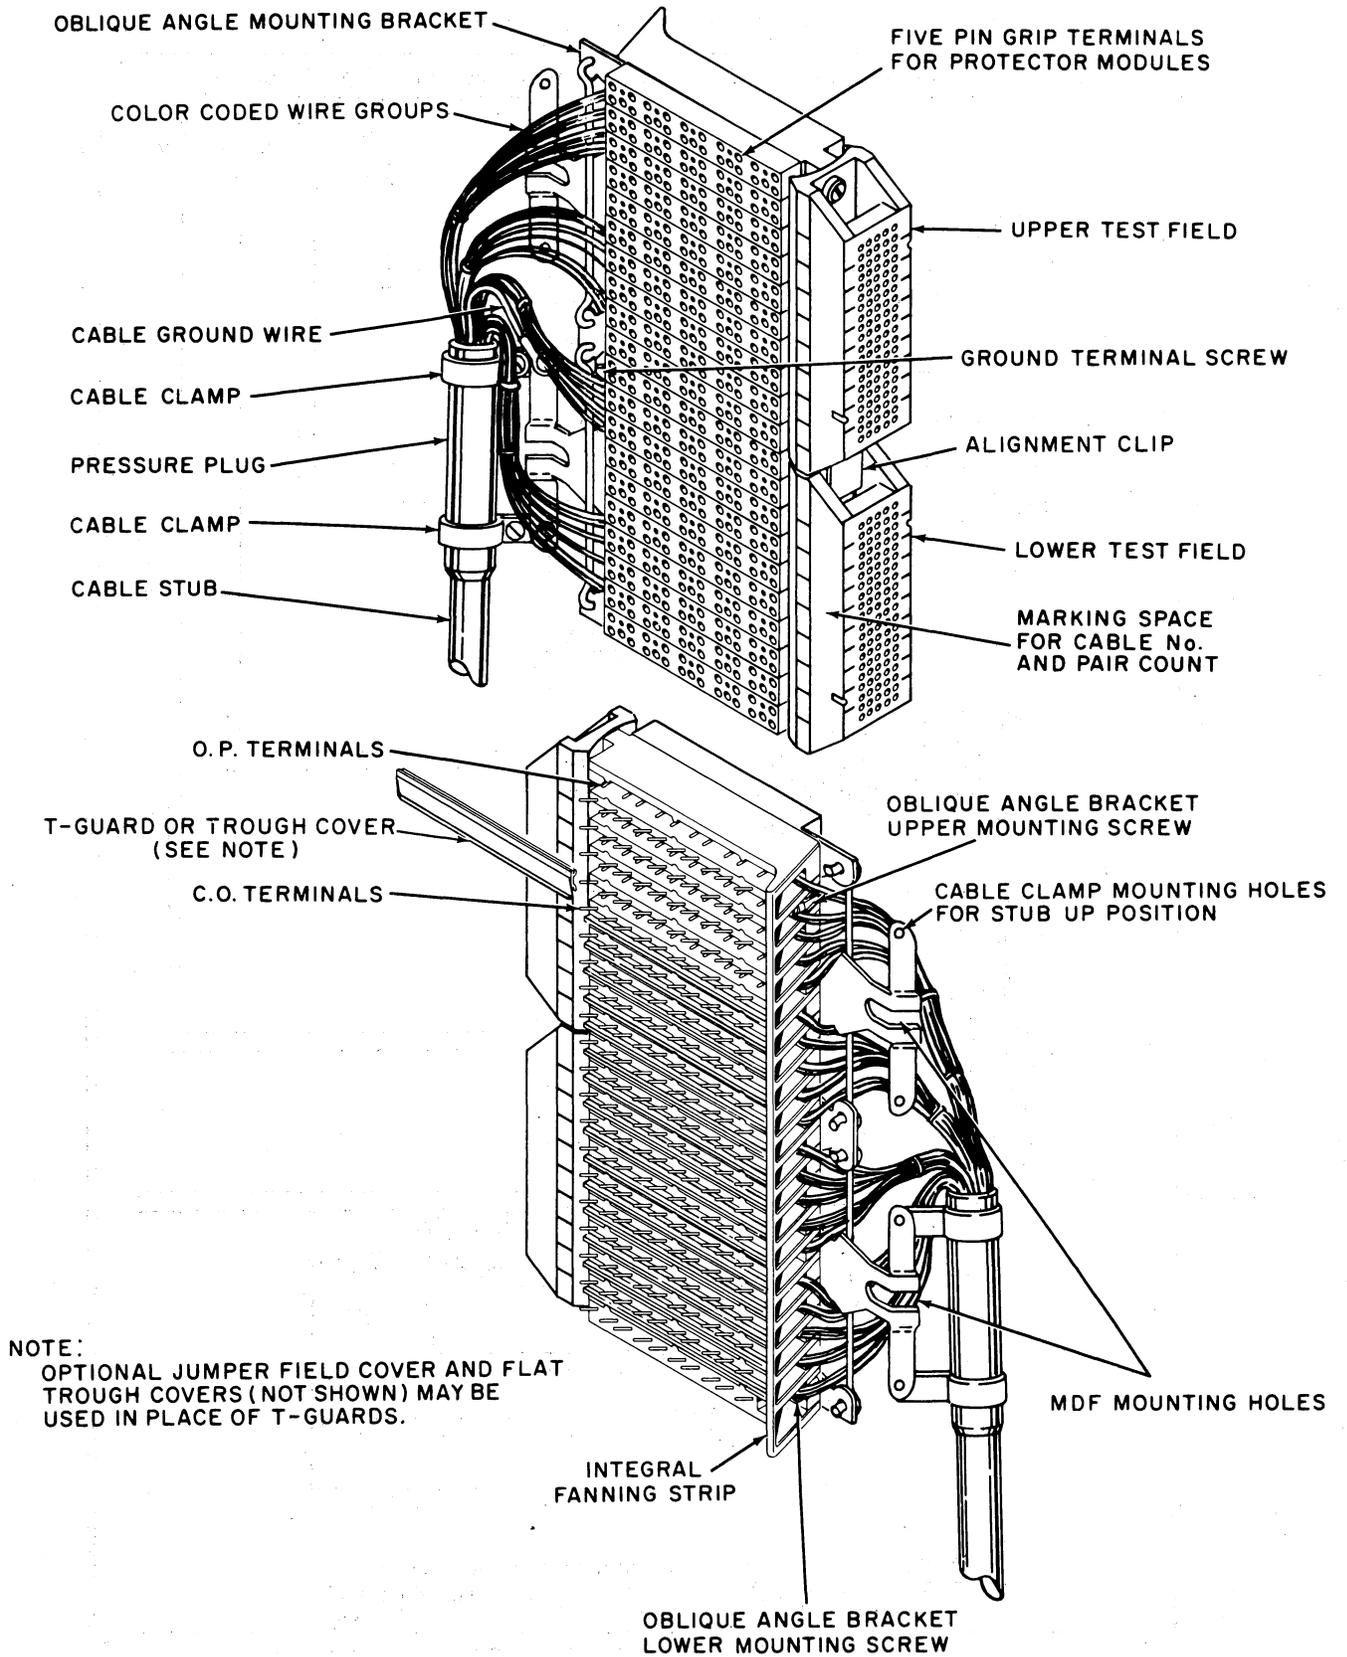

Figure 7. Connector Base Details
2.01 The connector base (see figure 7) is a one piece, flame retardent plastic molded panel fastened to an oblique angle mounting bracket. Oblique angle mounting is used for easy access and rapid grouping of pairs in stubs being wired to stubless Connectors. The mounting is quickly changed to the final straight-on position for wiring to the jumper terminals. Stubbed Connectors are mounted directly in the straight-on position. The connector base panel is equipped with a group of 100 five-pin grip type terminals. Four of these terminals provide contact for tip and ring connections between outside plant cable and the inside plant jumpers. The fifth terminal provides a ground connection to the ground terminal through a unique printed circuit board. This fifth terminal also serves as a polarization terminal.